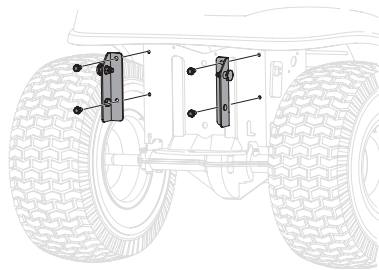

Figure 3
3. Mount the mounting brackets to your tractor using four self-tapping hex screws included with your kit. See Figure 3.